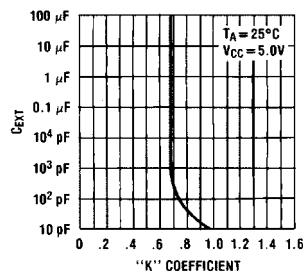

FIGURE 5.
6. The "K" coefficient is not a constant, but varies as a function of the timing capacitor CX. Figure 5 details this characteristic.
7. Under any operating condition CX and RX must be kept as close to the one-shot device pins as possible to minimize stray capacitance, to reduce noise pick-up, and to reduce  $I \times R$  and  $L di/dt$  voltage developed along their connecting paths. If the lead length from CX to pins (10) and (11) is greater than 3 cm, for example, the output pulse width might be quite different from values predicted from the appropriate equations. A non-inductive and low capacitive path is necessary to ensure complete discharge of CX in each cycle of its operation so that the output pulse width will be accurate.